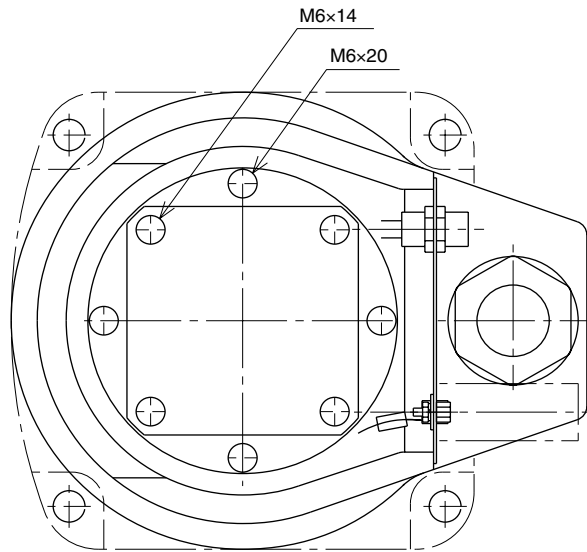
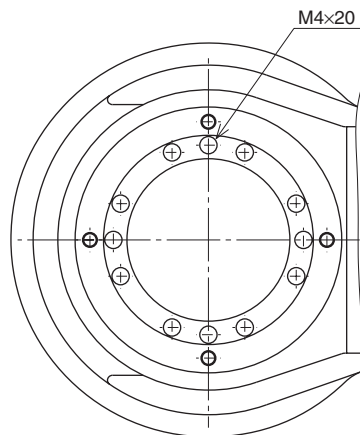
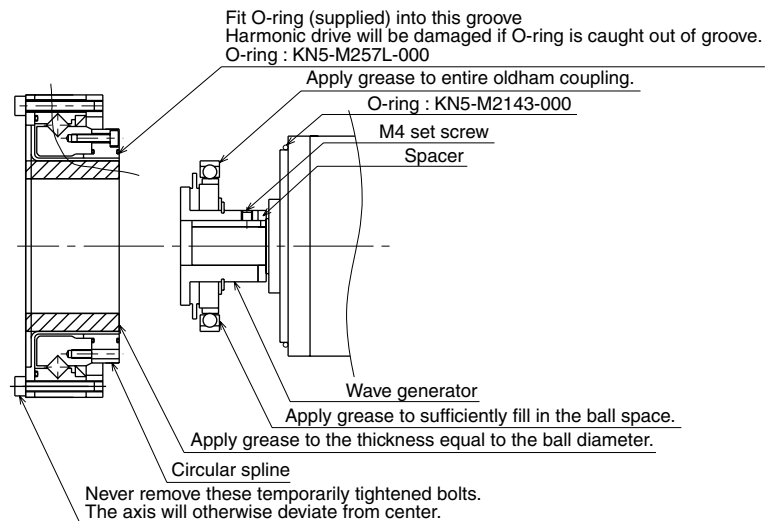

Fig. 5-18
Fig. 5-21
Fig. 5-22
- 7) Remove the bolts (M6×20L, 4 pieces) securing the motor holder by using the ratchet handle, M6 hexagonal socket, socket adapter and extension bar. (See Fig. 5-18.)
- 9) Remove the bolts (M6×14L, 4 pieces) securing the motor and remove the motor from the motor holder. (See Fig. 5-18.)
- 10) Remove the wave generator from the motor shaft. The wave generator is secured with an M4 set screw and keyway. (See Fig. 5-22.)
- 13) Remove the bolts (M4×20L, 12 pieces) securing the X-axis harmonic drive. (See Fig. 5-21.)
- 15) Fit an O-ring (supplied with the harmonic drive) coated with harmonic grease into the O-ring groove on the new harmonic drive. (See Fig. 5-22.) Apply small amounts of “Screw Lock” to the bolts (M4×20L, 12 pieces) and tighten them to secure the harmonic drive from the backside of the base. (See Fig. 5-21.)
- 16) Apply harmonic grease to the new wave generator and flexible spline. See Fig. 5-22 for applying grease properly.
- 18) Fit the spacer and wave generator onto the motor shaft, and fully insert them against the motor. Then, apply small amounts of “Screw Lock” to the M4 set screw (1 piece) you removed earlier and tighten it to secure the wave generator onto the motor shaft. (See Fig. 5-22.)
- 19) Fit the O-ring to the motor and secure the motor to the motor holder with the bolts (M6×14L, 4 pieces) you removed earlier. (See Fig. 5-18 and Fig. 5-22.)
- 20) Fit a new O-ring coated with harmonic grease into the O-ring groove on the motor holder and tighten the bolts (M6×20L, 4 pieces) you removed earlier to temporarily secure the motor holder to the base. (See Fig. 5-18.)